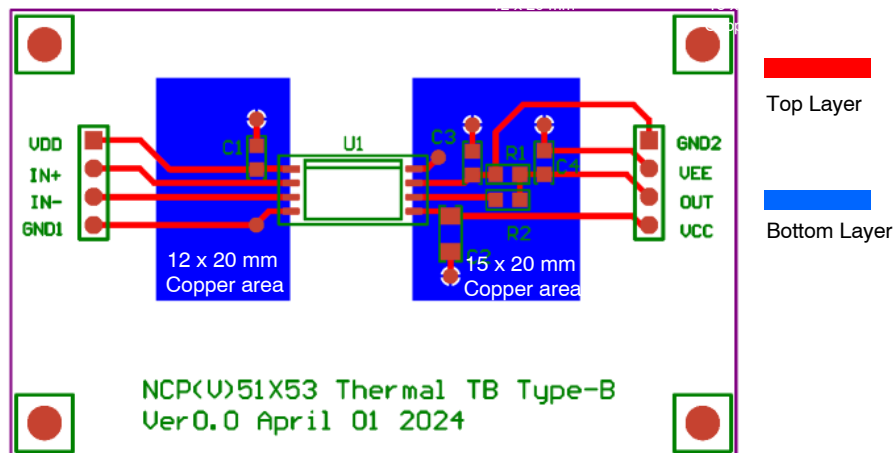

Figure 5. Reference Layout for the Type-B
- As specified for a reference layout shown in Figure 5. The DUT is mounted on a 65 x 40 x 1.6 mm FR4 substrate with an additional heat spreading copper of 240 mm²/300 mm² (Primary/Secondary). The copper thickness is 1oz and test conditions is under natural convection or zero air flow.